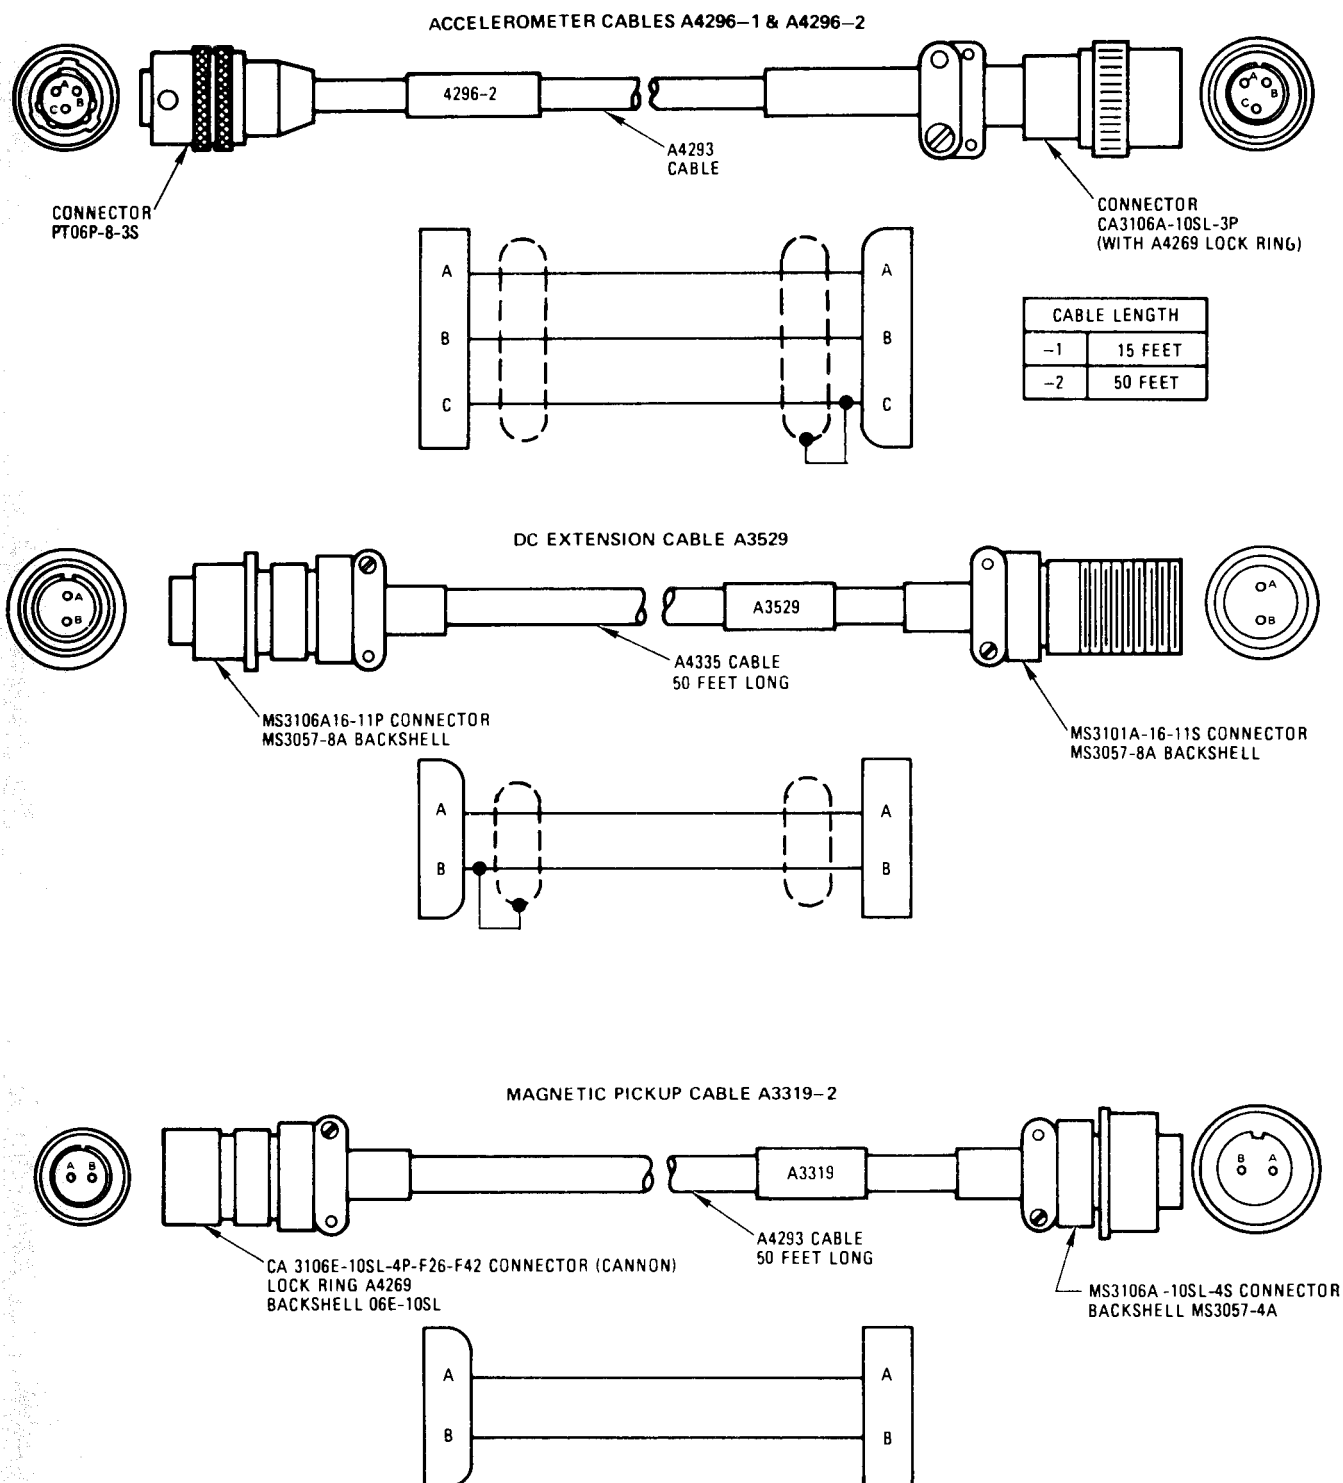

Figure 4-15. Cables A4296-1, A4296-2, A3529, and A3319-2
*b. Magnetic Pickup.* These tests will determine the operational capability of the Magnetic Pickup and Magnetic Pickup Cable. Refer to Fig. 4-15 for a schematic diagram of the Magnetic Pickup Cable and perform resistance checks in accordance with tables 4-12 & 4-13, respectively.
**4-16. DC Cables.** These tests will determine the operational capability of the DC Extension Cable and DC Adapter Cables. Refer to figures 4-15 + 4-16. for schematic diagrams of the DC Extension Cable and DC Adapter Cables and perform resistance checks in accordance with Table 4-14.